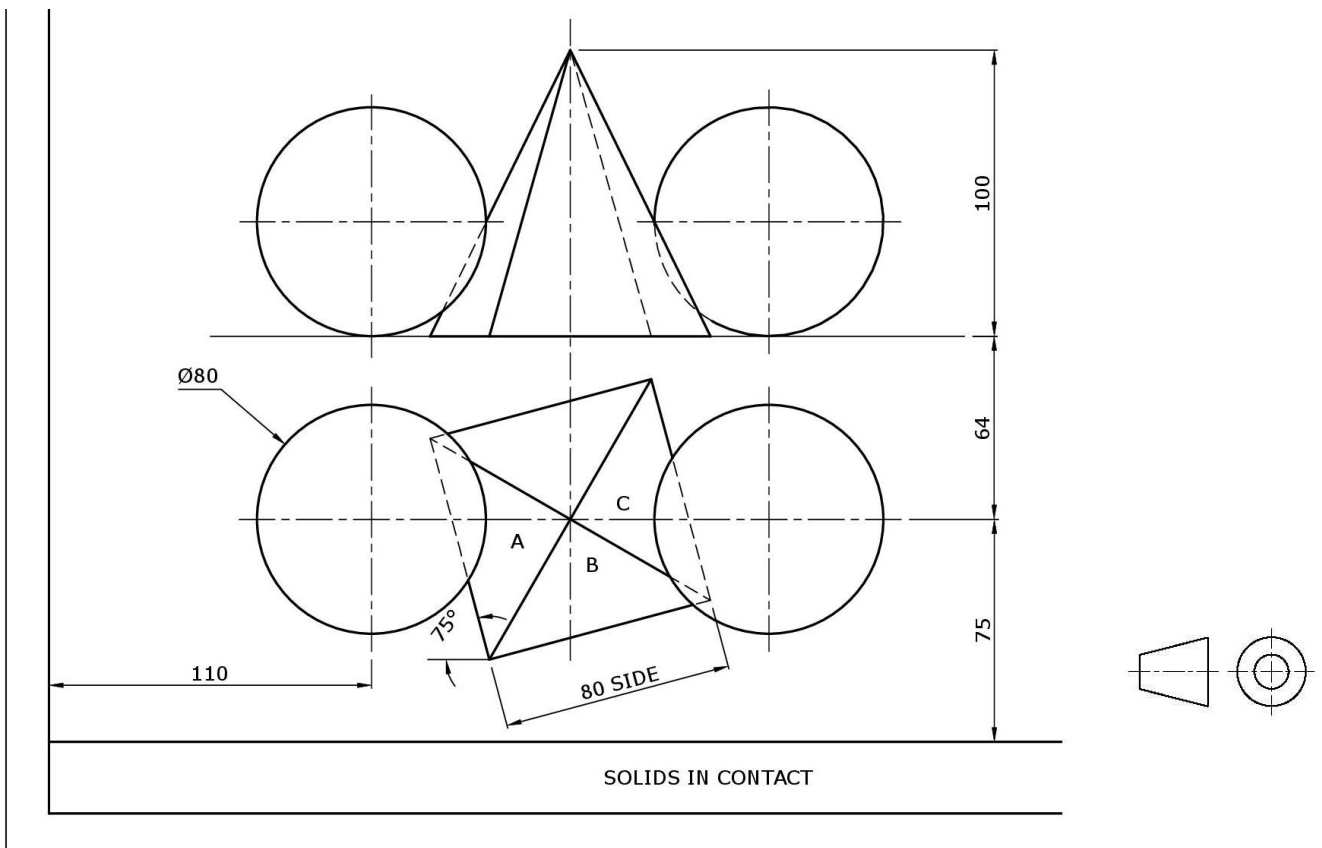

Figure 5b
5. A front elevation and plan view of two equal spheres in contact with a right square pyramid are shown Figure 5b. The three solids (spheres and the square pyramid) are resting on a horizontal surface.